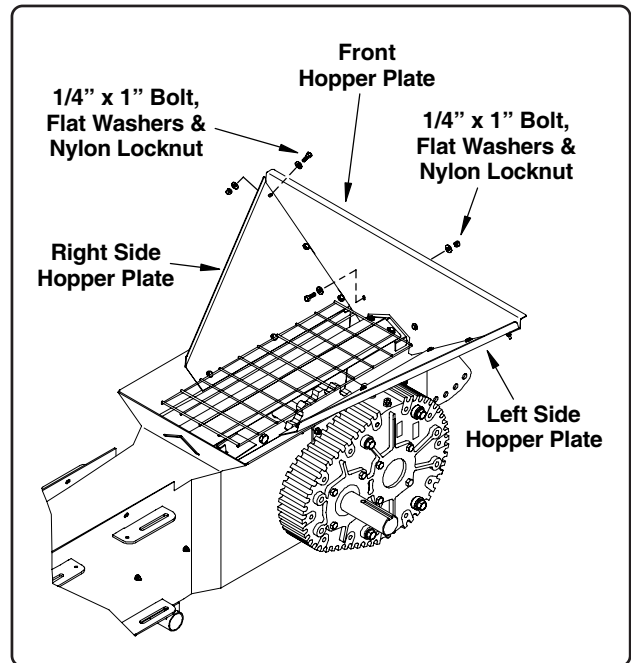

Fig. 27
1. Install the front hopper plate to the inlet boot using two (2) 1/4" x 1" bolts, four (4) flat washers and two (2) nylon locknuts (See Fig. 27).
2. Attach the left and right side hopper plates to the front plate and to the inlet boot as shown (the side plates will attach to the top side of the front plate). Secure each hopper plate using five (5) 1/4" x 1" bolts, ten (10) flat washers and five (5) nylon locknuts.